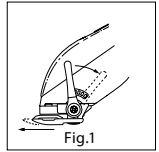

Fig.1
- The taper lever is positioned as shown in figure 1. You can hold the clipper in your hand and adjust the lever at the same time while you are clipping.
- There are 5 different taper positions to choose from. To increase cutting length, slowly push lever down. To cut closer push the lever up (figure. 1).